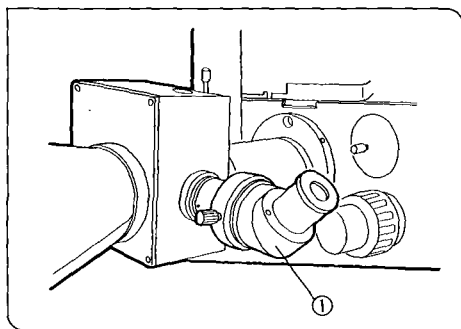

Fig. 109
- ⊙ Since it will be difficult to use the standard focusing telescope of the camera unit when attached to the side port, it is recommended to use a V-shaped focusing telescope (U-FTV) ①. (Fig. 109)
- Slide the top portion of the U-FTV ① up and down until the photo mask is brought into focus. (Fig. 109)